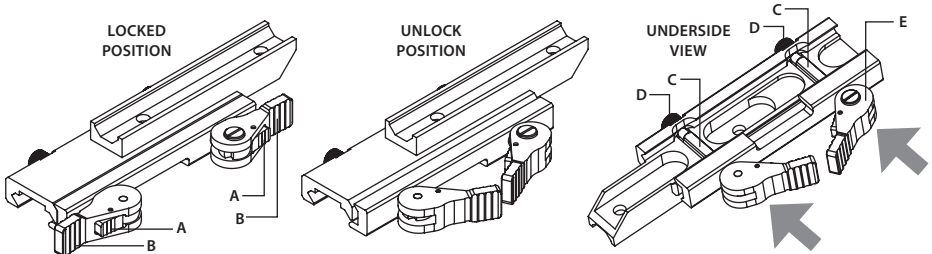

FIGURE 3-2. DRONE PRO MOUNT
1. Unlock the clamping device of the Drone PRO mount by pushing down on the lever holders (A, Figure 3-2) and unlocking the levers (B, Figure 3-2).
2. Install the Drone PRO on the Picatinny/ Weaver rail so that the stops (C, see Figure 3-2) slide into the transverse slots on the rail.
3. Affix the Drone PRO to the rail by locking the levers (B, Figure 3-2).
2. With the clamping device unlocked (as shown in Figure 3-2), push the cam (E) towards the arrow, which will cause the nut (D) to slide out of its hole.
- To tighten/ loosen the clamping device, push down on the cam (E) and turn the nut (D) CW/ CCW respectively, in one-two increments (see note below). Much like when the cam (E) is released, backward-moving springs will cause the nut (D) to slide back into its hole.